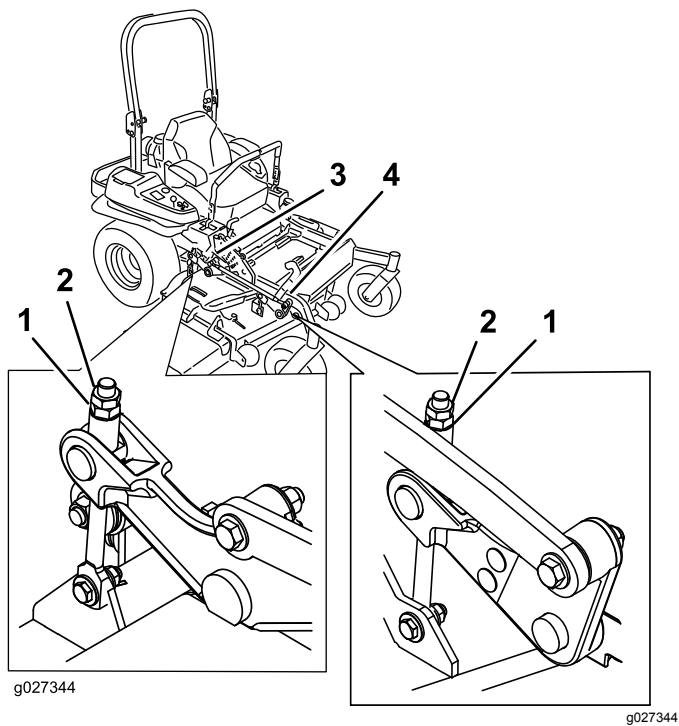

Figure 93
10. Fine-tune the adjustment nut on the front deck lift assembly by turning it (Figure 93).
16. Fine tune the screw adjuster by turning it to get 8.3 mm (3-1/4 inches) height (Figure 93).